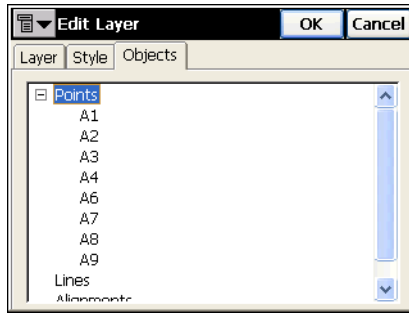

Figure 4-25. Layer Objects
- To edit a layer, either double-tap the layer or select it in the **Layers** screen and tap **Edit**. On the **Edit Layer** screen, change the layer's parameters as needed and tap **OK**. To view objects on the existing layer, tap the **Objects** tab (Figure 4-25).